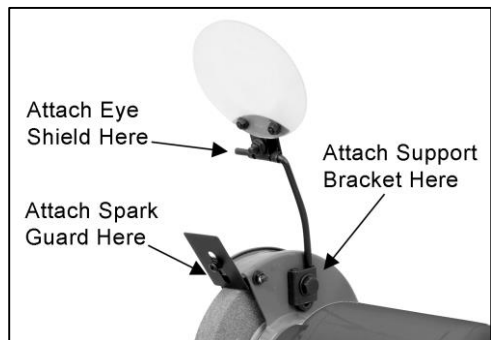

Fig. 3
1. Using the included 5 mm screw and washer, install the spark guard as shown in Figure 3.